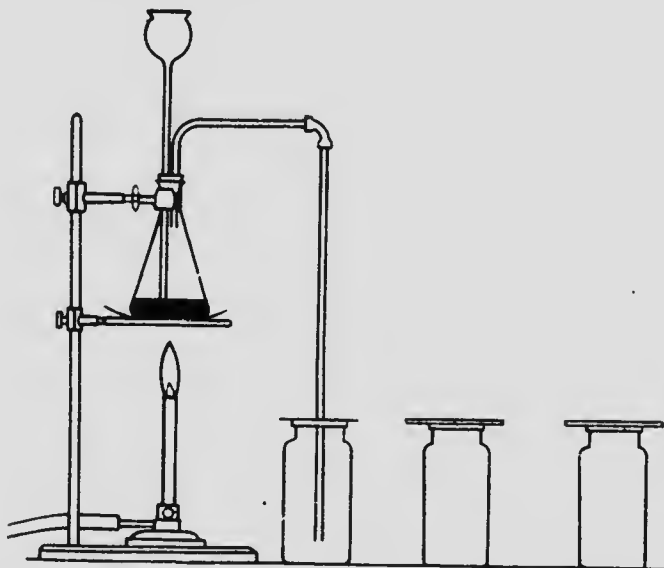
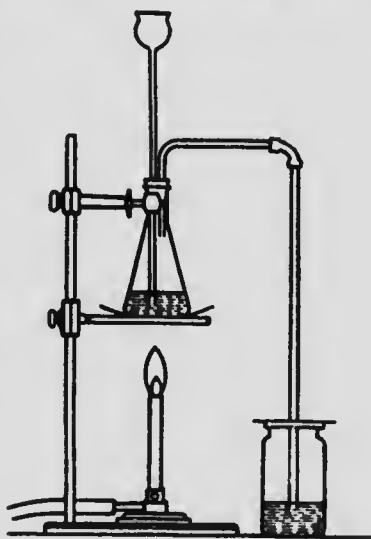

FIG. 35.
FIG. 36.
Arrange the apparatus as shown in Fig. 35, care being taken that the delivery tube is correctly placed and that the stopper is pushed down into the gas bottle. The flask is very tight, and is joined to the elbow by a piece of rubber tubing.
**Sketches.**—Figs. 35 and 36.
**Experiments.**—Set up the apparatus as shown in Fig 35. Place in the flask 15 grms. of sodium chloride and carefully pour down the thistle tube 25 cc. of sulphuric acid (11 : 8), to be found in a specially labelled bottle. Remove the flask from the stand and shake to make sure that the entire bottom of the flask is wet **on the inside with acid.** Warm gently with a small flame. Collect 3 bottles of the gas. You can detect when the bottle is full of gas by holding a rod moistened with ammonium hydroxide above the mouth of the bottle.
- (1) Note color and, very carefully, the odor, etc.
- (2) Place a burning candle in a bottle of the gas. Note what happens.
- (3) Fill the sink on your work-bench with water and hold the mouth of a bottle filled with the gas below the surface of the water. Note what happens.
(4) Place some litmus solution or a piece of moistened blue litmus paper in a bottle of the gas. Note the color change.
(5) Moisten a glass rod with ammonium hydroxide and hold the rod in the gas. Note what happens.
(6) Put 25 cc. water in a gas-bottle and place the glass delivery tube **not more than an eighth of an inch** below the surface of the water. Pass the gas into the water and note the currents set up (Fig. 36). Note the odor of the solution and compare with the odor of the hydrochloric acid in the reagent bottle.
(7) Add a **few drops** of silver nitrate solution to 3 cc. of the solution of the gas in the test tube. Shake and heat. Note what happens.
(8) Add a **few drops** of silver nitrate solution to a **few drops** of dilute hydrochloric acid solution (bench). Shake and heat. Note what happens. This is the test for hydrochloric acid.